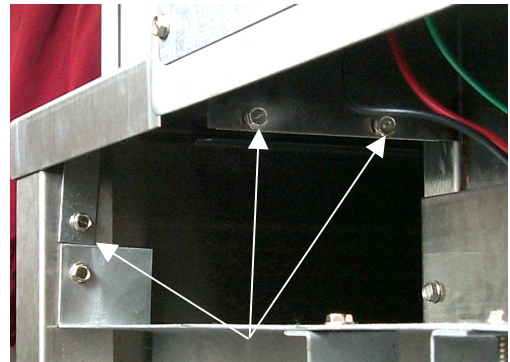

Fig.2: Three screws hold top in place.
- Remove the three screws that hold the top cover in place. Fig. 2 **Note:** Two of the screws which secure the top on the larger Sinbad are inside the hopper motor housing.